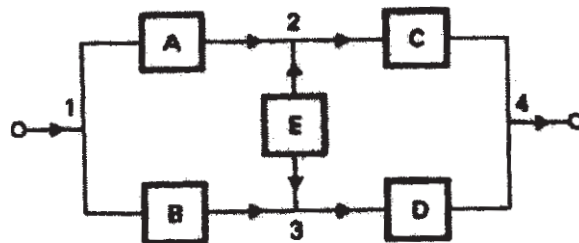

Fig. 4
- Q12)a) Fig. 4 shows reliability block diagram of a system the reliabilities of each elements are given as $R(A) = 0.92$, $R(B) = 0.90$, $R(C) = 0.98$, $R(D) = 0.86$ & $R(E) = 0.95$. Find the system reliability. Also state tie sets and cut sets for the system. [10]